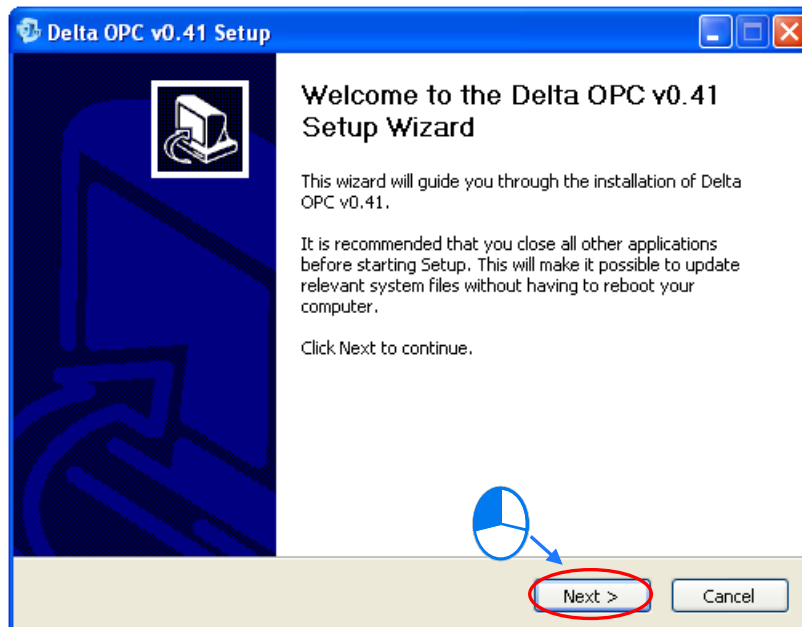

Figure 1-2 Installation window
- (2) Click **Next** in the installation window appears, as shown in figure 1-2.